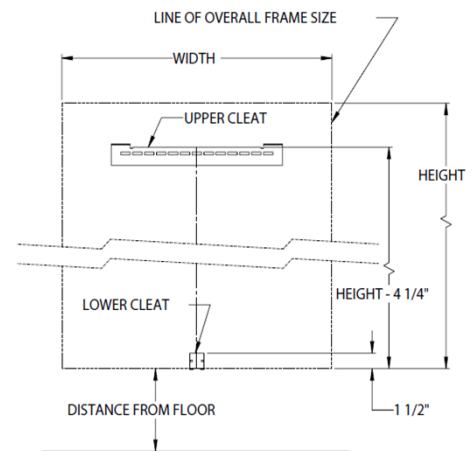

Figure 10
1. Refer to Figure 10 for the mounting locations of the upper and lower cleats. Mark a level line at these locations.
**See Figure 10**